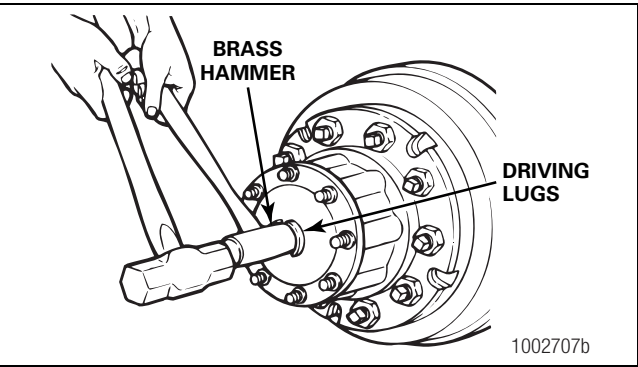

Figure 3.1
1. Hold a 1-1/2-inch diameter brass drift or brass hammer against the center of the axle shaft, inside the round driving lugs. Figure 3.1.